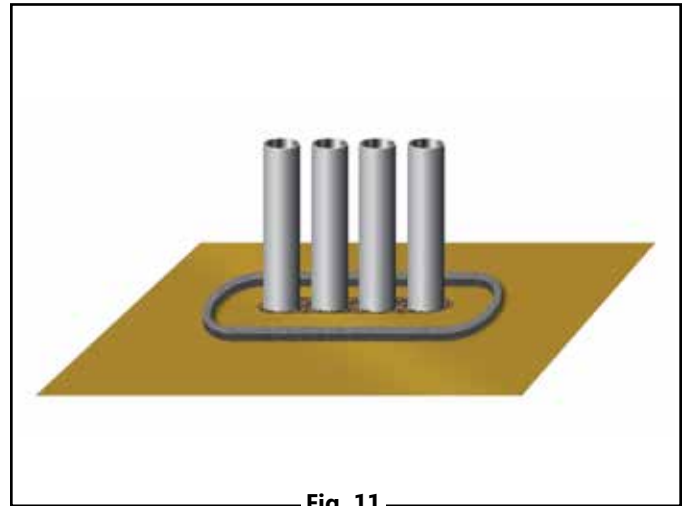

Fig. 11
- C) Create a dam around the penetration area approximately 2" away from the pipe or other vertical penetrations by removing the release liner from the back of a 1" weather stripping foam and adhere to the vapor barrier. Form a complete circle to contain the POUR-N-SEAL™ materials (Fig. 11).